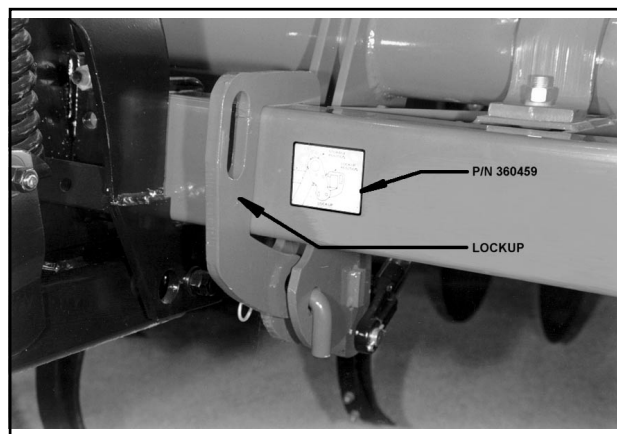

Figure 4-5 Lockup in Lockup Position
- Remove lockup from storage position and attach lockup to frame (**See Figure 4-5**).